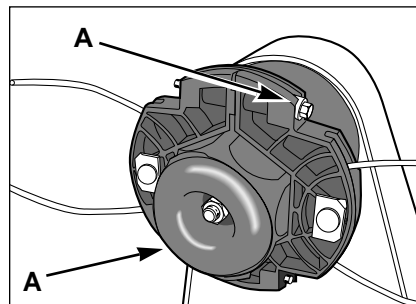

Figure 4-1
- B. Use a 1/2" wrench to loosen both bolts (A, Figure 4-1) securing the trimmer head.